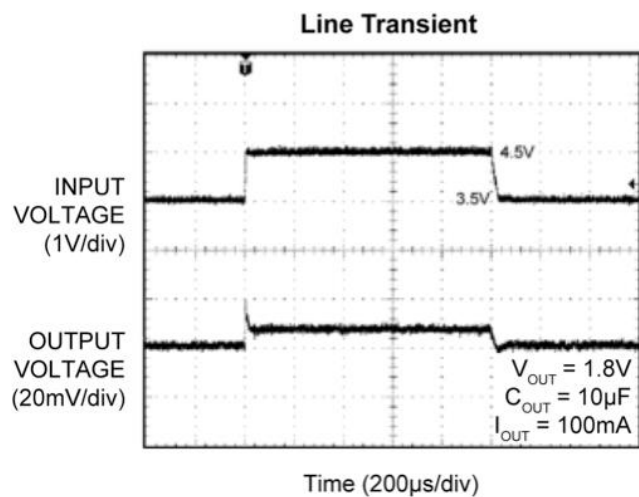

Figure 26. MIC38300HYHL Line Regulation
- High performance LDO with ultra-fast load and line regulation (see Figure 26 and Figure 27)